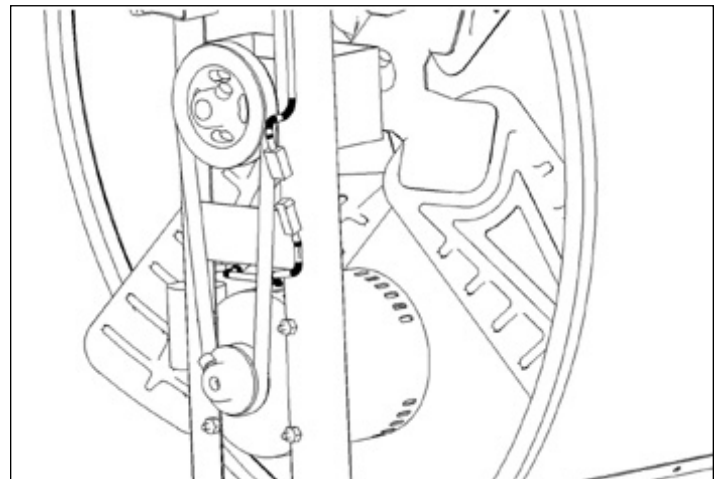

figure 2
2. Unplug Wire Connector (figure 2).